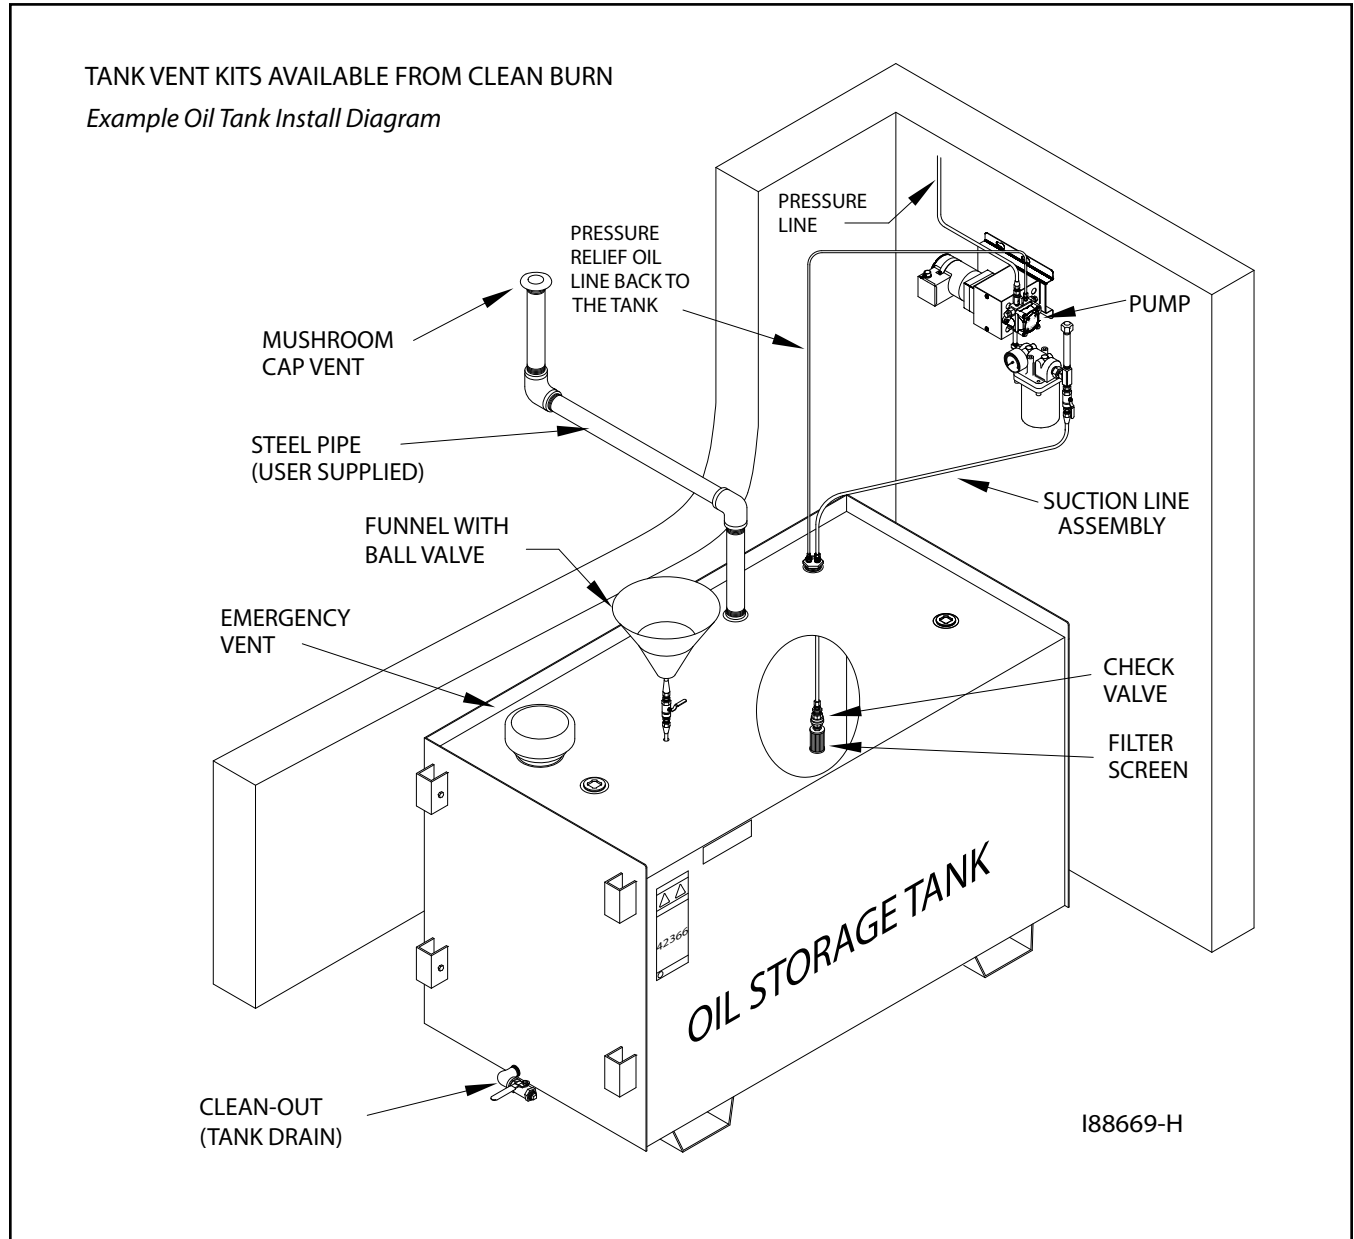

Figure 4D - Typical Metering Pump Installation with Inside Tank
Some codes require that you install a tank vent (to the outside) and an emergency vent for your tank as shown in Figure 4D. **Tank Vent Kits** are available from Clean Burn; contact your local Clean Burn dealer to order. Be sure to check your local codes for any additional tank installation requirements, and adhere to the following installation guidelines:
- Install a length of minimum 2" steel pipe (user-supplied) terminating outside with a proper vent cap as shown in Figure 4D. Consult local codes for information and requirements concerning the proper venting of oil storage tanks.
- Install an emergency vent as shown in Figure 4D. Contact your tank manufacturer for information concerning the proper emergency vent for your tank.